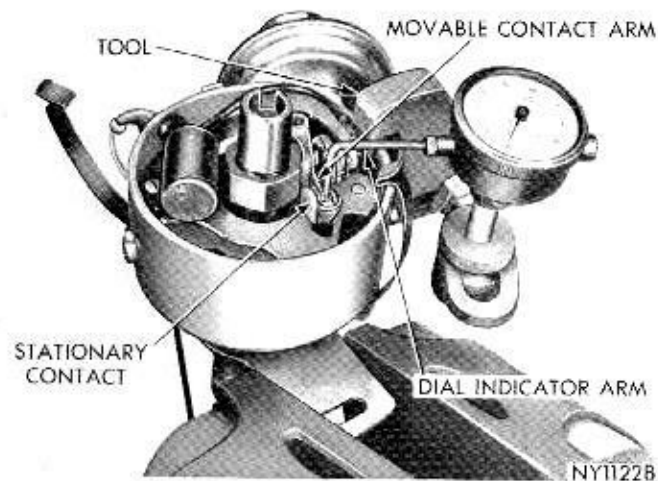

Fig. 8—Adjusting Contact Clearance with Indicator
(1) Loosen the terminal screw nut, and remove primary lead and condenser lead.
(2) Remove the stationary contact lock screw and remove the old contact set.
(3) Install a new contact set; the sleeve at one end of the adjustable bracket fits over and pivots on the upper contact plate mounting pin.
(4) Connect the condenser and primary leads.
(5) Align the contacts, if necessary, by bending the stationary contact bracket only. **Never bend the movable contact arm to obtain alignment.**
(6) After aligning the contacts, adjust contact clearance to "Specifications," using dial indicator (Fig. 8). Recheck the contact arm spring tension.
(7) Test the dwell angle to show proper degree of closure. See Paragraph, "Distributor Contact Dwell." The lock screw should be loosened just enough so that the stationary contact bracket can be moved with a slight drag; otherwise, it will be difficult to set the contacts accurately. After setting the contacts to the correct gap, tighten the stationary bracket lock screw.